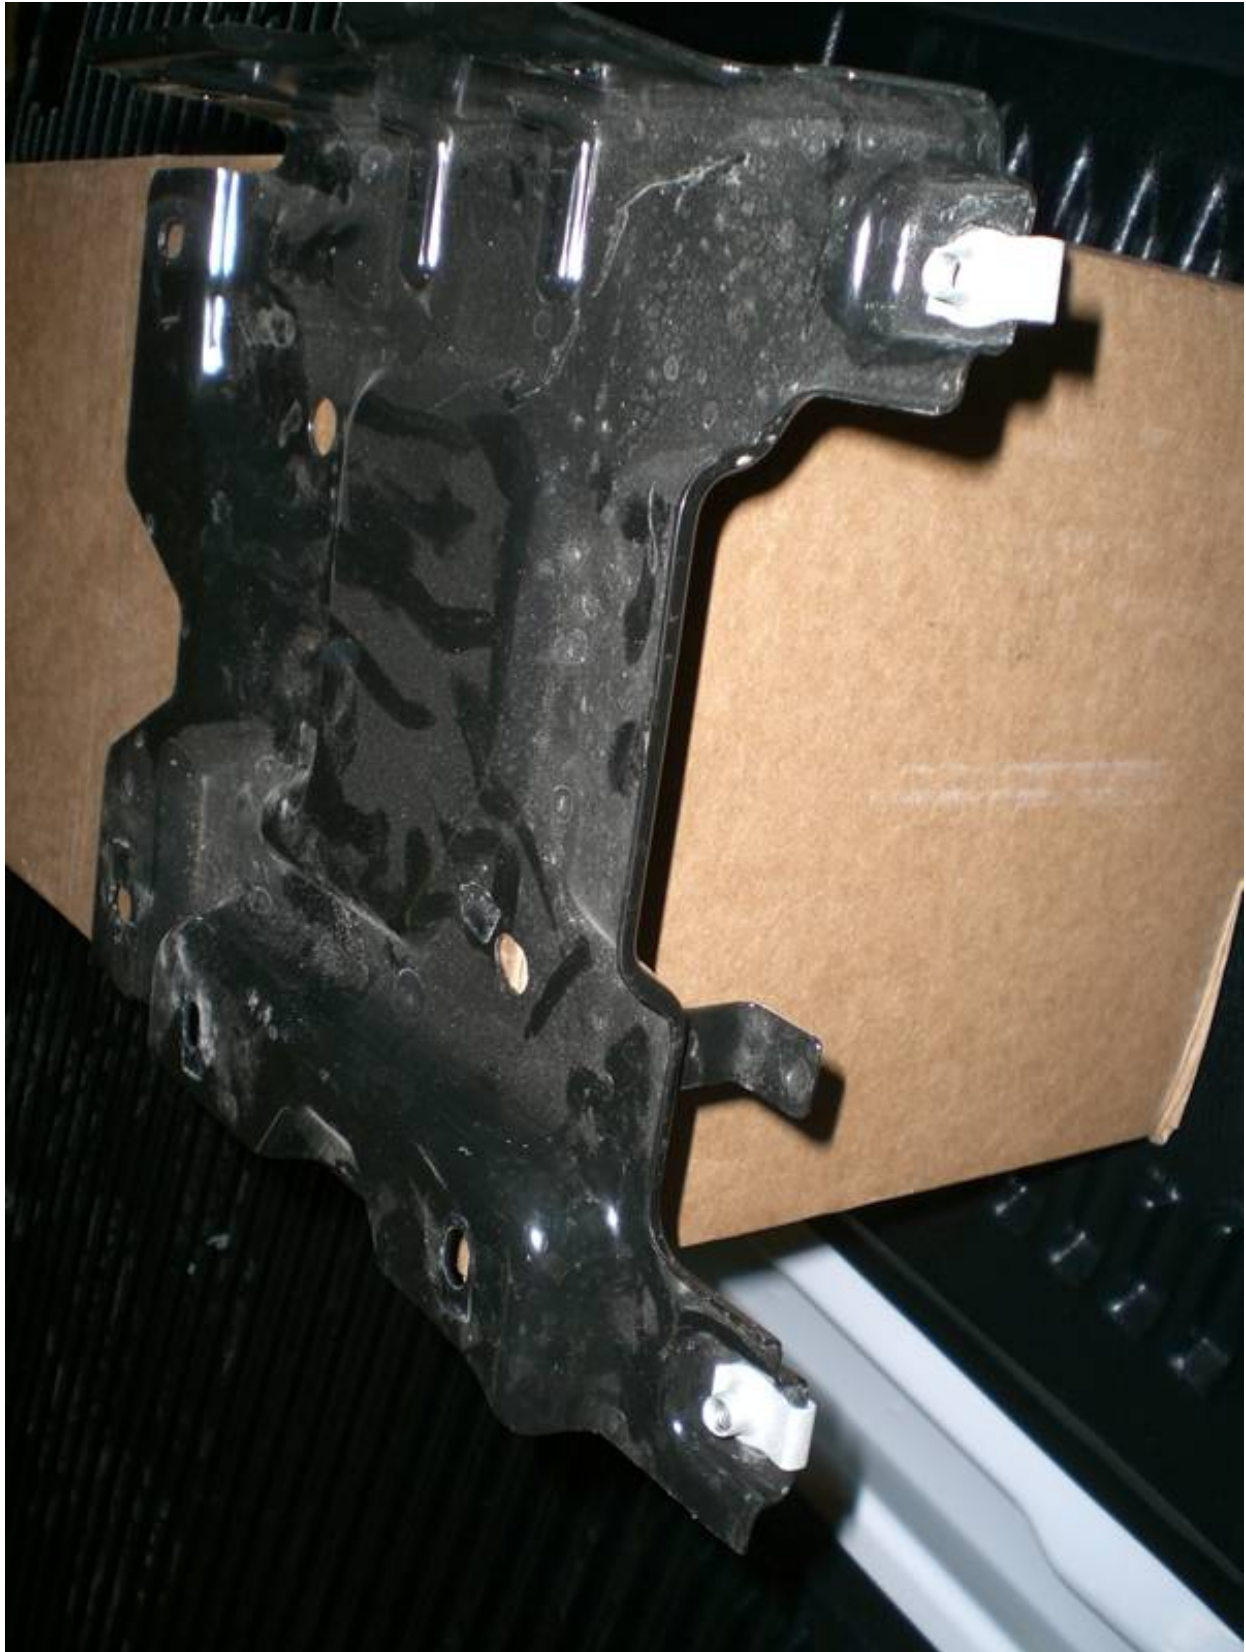

Figure 1 (Vapor Canister Bracket)
6. Modify the vapor canister bracket by cutting the frame clip flush with the bracket as shown in **Figure 1**.